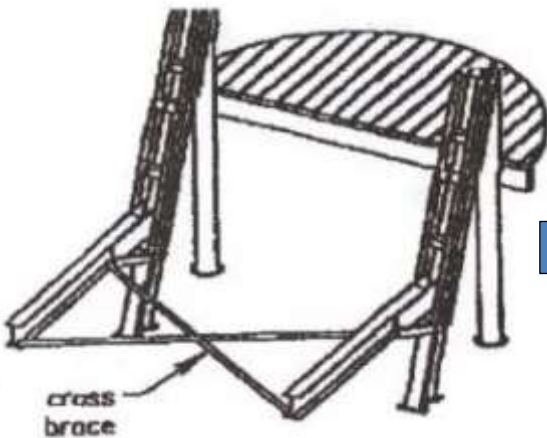

Figure 13
3. Attach one (1) of the cross braces to the bottom of the cradle arm closet to the shore.
7. Drill a hole in the middle where the two (2) cross braces meet.
8. Attach the bolt in the middle to secure the two. (figure 13)